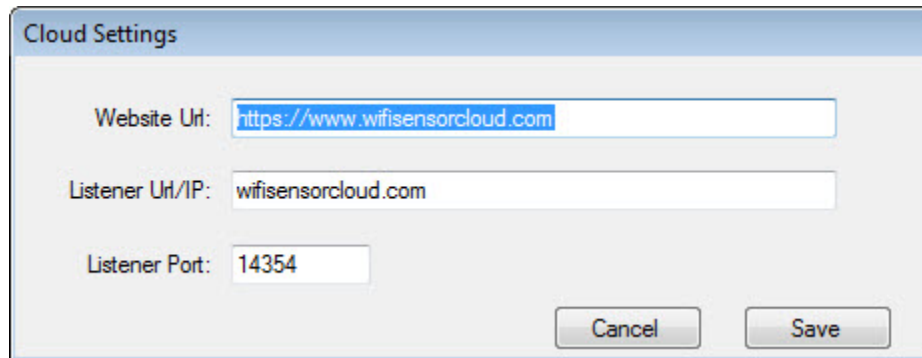

Figure 58: Cloud Settings dialog box
3. If the settings are *exactly as shown in Figure 58*, the settings are correct – click **Cancel**.
Otherwise, change the settings to match those in Figure 58 and click **Save**.